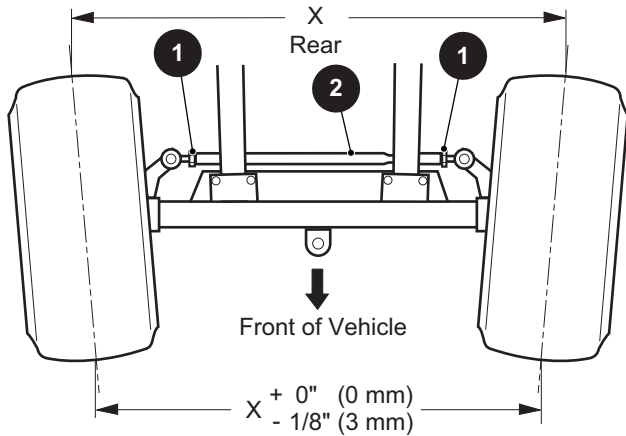

Figure 4 Wheel Alignment
5. Measure the distance between the chalk lines at both the front and rear of the tires (Figure 4). The measurement taken at the front of the tires should be 0" - 1/8" (0 - 3 mm) less than the rear.